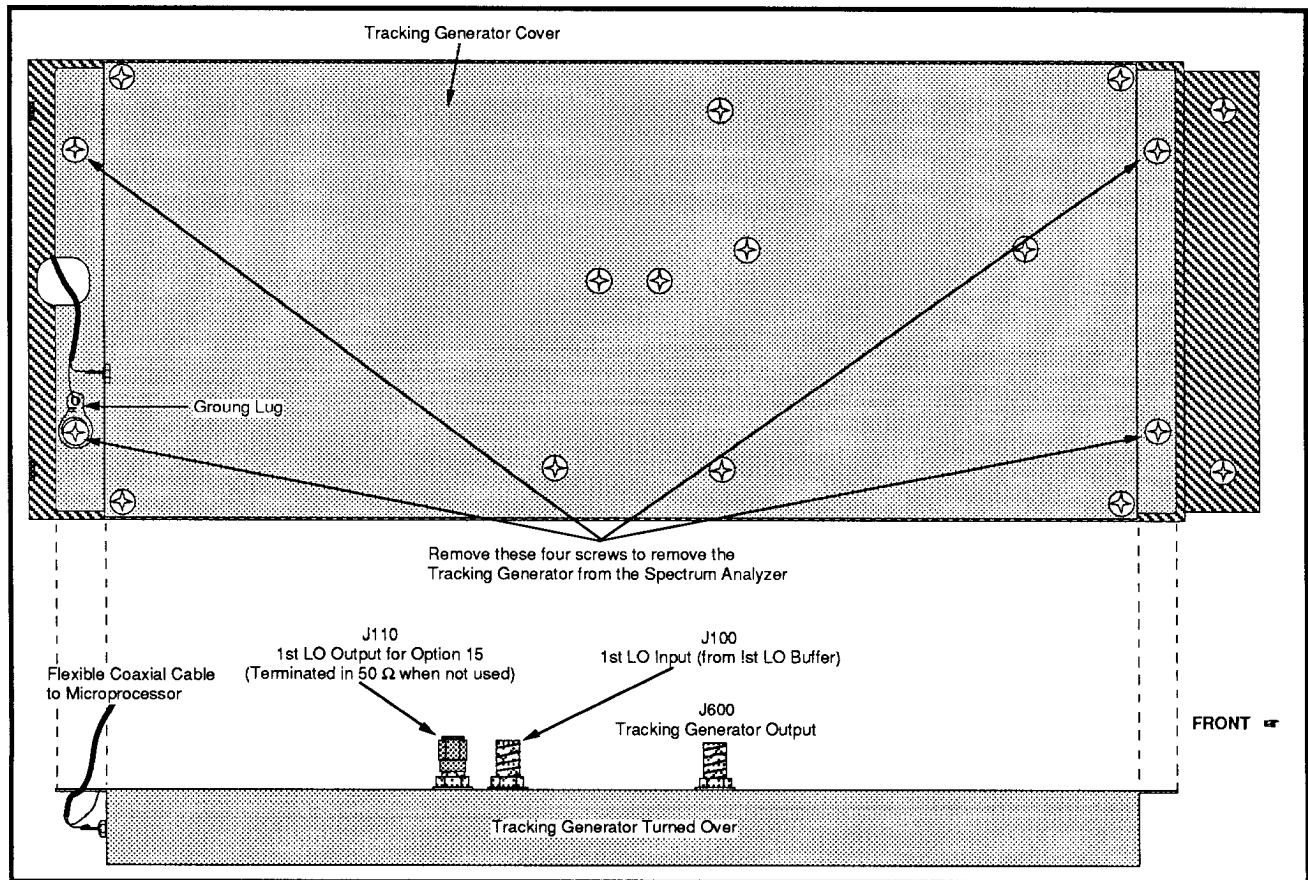

Figure 4-12. Removing the Tracking Generator from the Spectrum Analyzer.
Disconnect the 50 Ω terminator from J110, the tracking generator output cable from J600, and the 1st LO Cable from 1st LO Buffer to J100 (see Figure 4-12).
Remove four phillips head screws from the corners of the left side cover. See Figure 4-12.
Use a male-to-female SMA cable to connect the LO signal from the 1st LO Buffer to J100 (Figure 4-12).
(a) Monitor the 1st LO output (J110) on the Isolation Amplifier board with the power meter. See Figure 4-12 for the location of the 1st LO output.
- (g) Replace the 50 Ω terminator to J110 on the Isolation Amplifier board or move the 50 Ω terminator from J101 on the rear panel to J110 on the tracking generator if Option 15 is installed (Figure 4-12).
- (2) Adjust Isolation Amplifier Output Level**